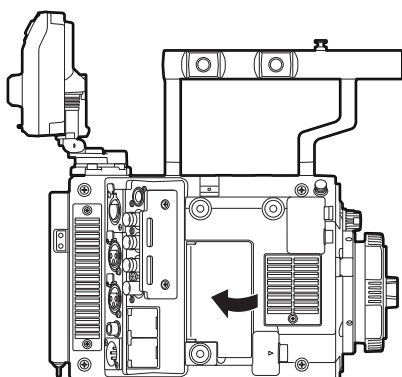

Fig. 1
- 1** Open the cover. (Fig. 1)